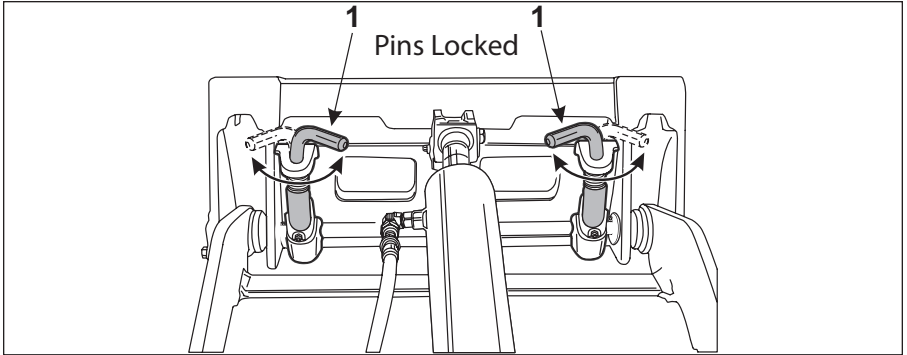

Figure 3-34 Attachment Locks in Locked Position
7. Rotate the attachment lock pins (Item 1, Figure 3-34) into the locked position securing the attachment to the machine.